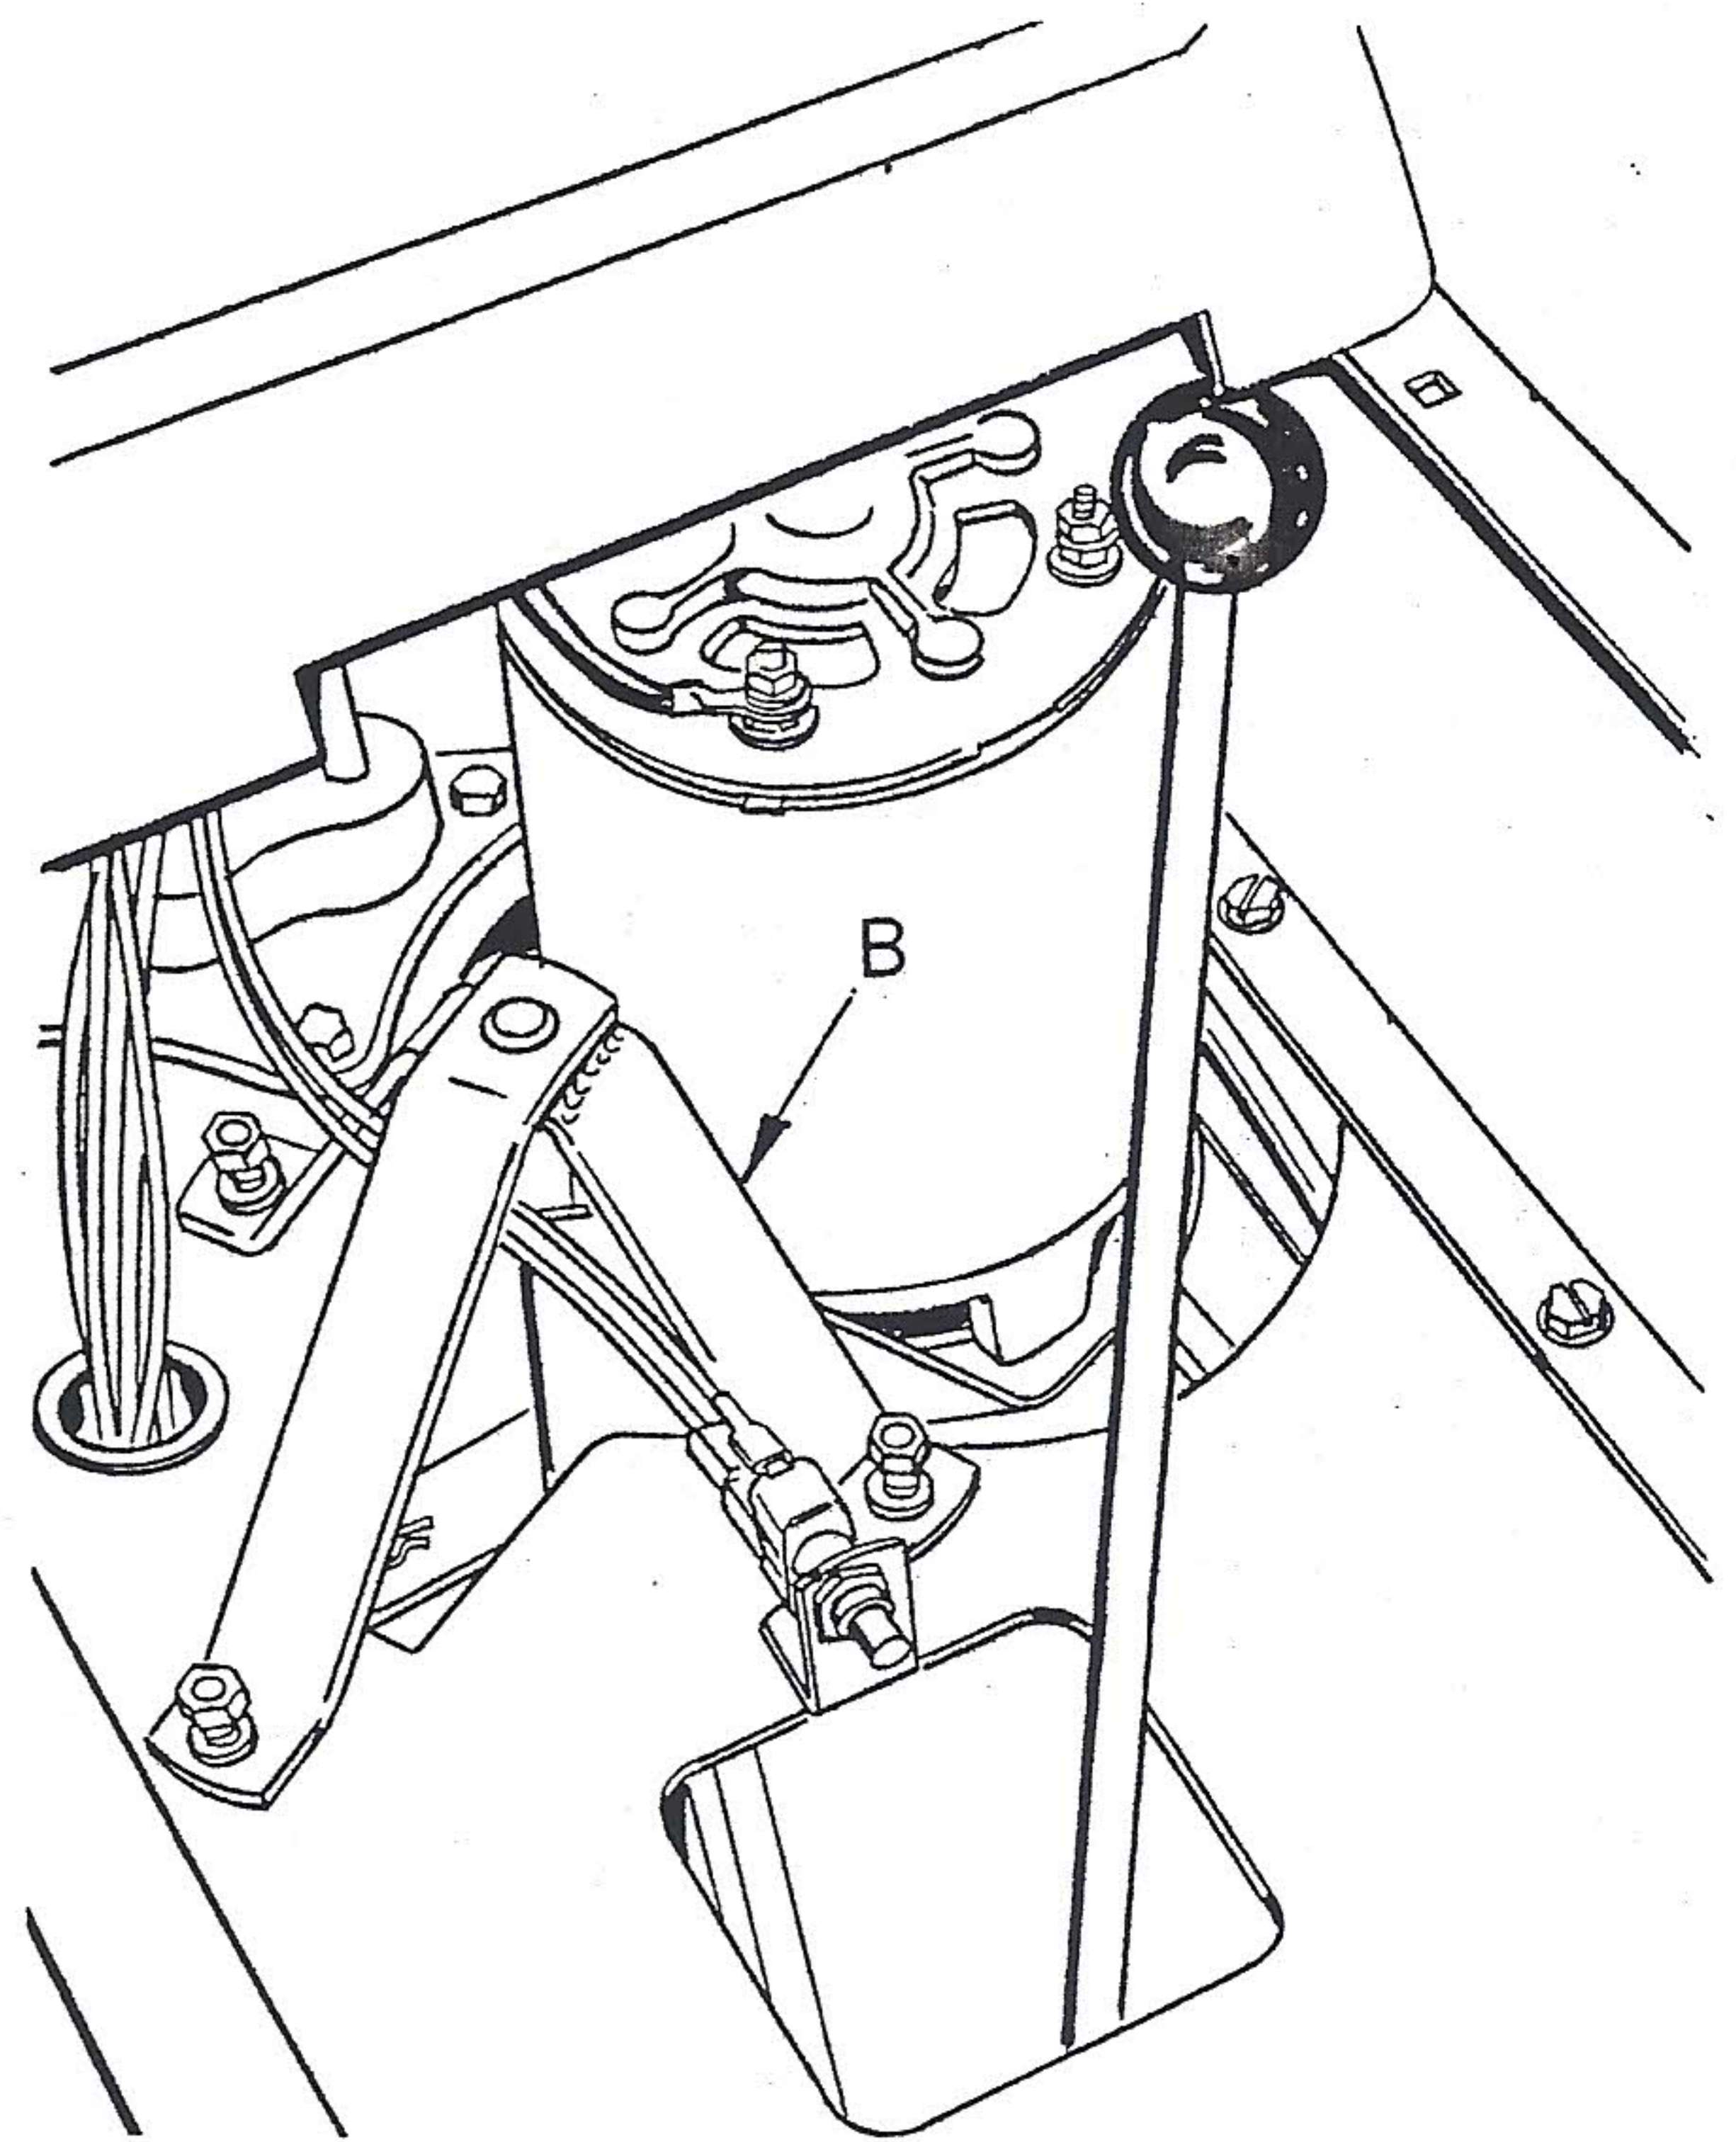

FIG. 41
3. Remove the three nuts and lockwashers in the hinge support assembly (B, Fig. 41). Remove hinge support assembly.